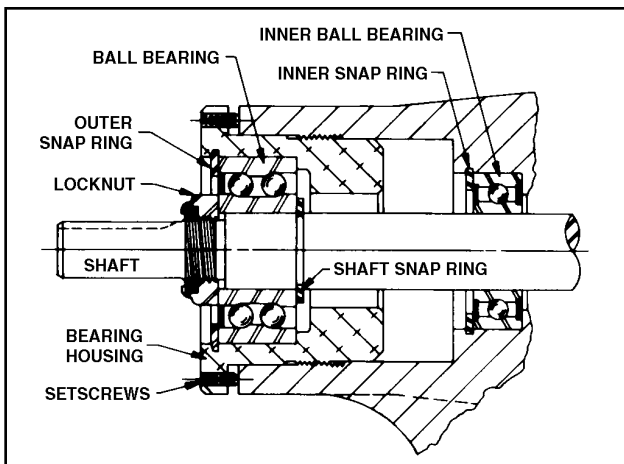
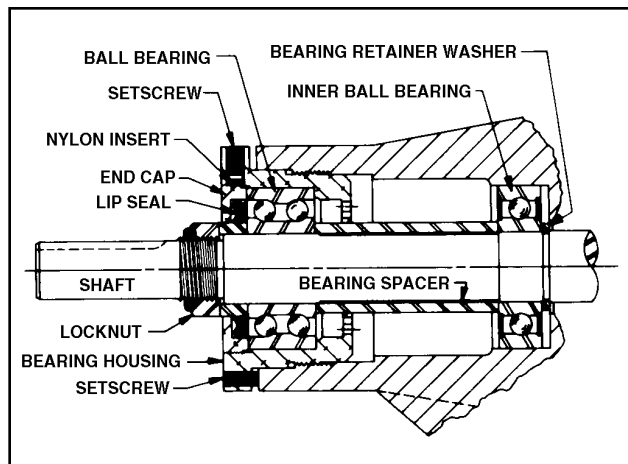

Figure 27 - Thrust-Bearing assembly (GG, HJ, HL)
Figure 28 - Thrust-Bearing assembly (AS, AK, AL)
5. Insert a brass bar or piece of hardwood in the port opening and between the rotor teeth to keep the shaft from turning. Turn the locknut counterclockwise and remove locknut. See Figure 27 or 28.
6. Loosen the two setscrews in the face of bearing housing and turn the thrust bearing assembly counterclockwise and remove from casing. See Figure 27 or 28.
7. **GG, HJ, HL:** Remove the snap ring from the shaft. See Figure 27. **AS, AK, AL:** Remove the bearing spacer from the shaft. See Figure 28.
10. **AS, AK, AL:** Remove the bearing retainer washer. The washer may have stayed with rotor and shaft when removed or is against ball bearing. See Figure 28.
GG, HJ, HL: Remove outer snap ring from the bearing housing and remove the ball bearing. See Figure 27.
AS, AK, AL: Loosen the two set screws in flange outside diameter. Rotate end cap and lip seal counterclockwise and remove. Remove the ball bearing. See Figure 28.
13. GG, HJ, HL: Install the shaft snap ring in groove in the shaft. See Figure 27.
AS, AK, AL: Install the bearing spacer over the shaft and against the single row ball bearing. See Figure 28.
14. Pack the lubrication chamber between the inner ball bearing and double row ball bearing in the thrust bearing assembly approximately one-half full of multi-purpose grease, NLGI #2. The thrust bearing assembly will take the remaining space. See Figures 27 and 28.
GG, HJ, HL: Install the ball bearing into the bearing housing with shield side toward the coupling end of the shaft. See Figure 27. Install the snap ring into bearing housing to retain ball bearing. This snap ring has a tapered edge to fit tapered groove in bearing housing. The tapered edge is located away from the ball bearing.
AS, AK, AL: Install the ball bearing into the bearing housing. Install the lip seal in the bearing housing end cap. The lip should face towards the end of the shaft. Put the bearing spacer collar in the lip seal and install in the bearing housing and tighten the set screws securely. See Figure 28.
Loosen two screws in face of thrust-bearing assembly. See Figures 27 and 28.